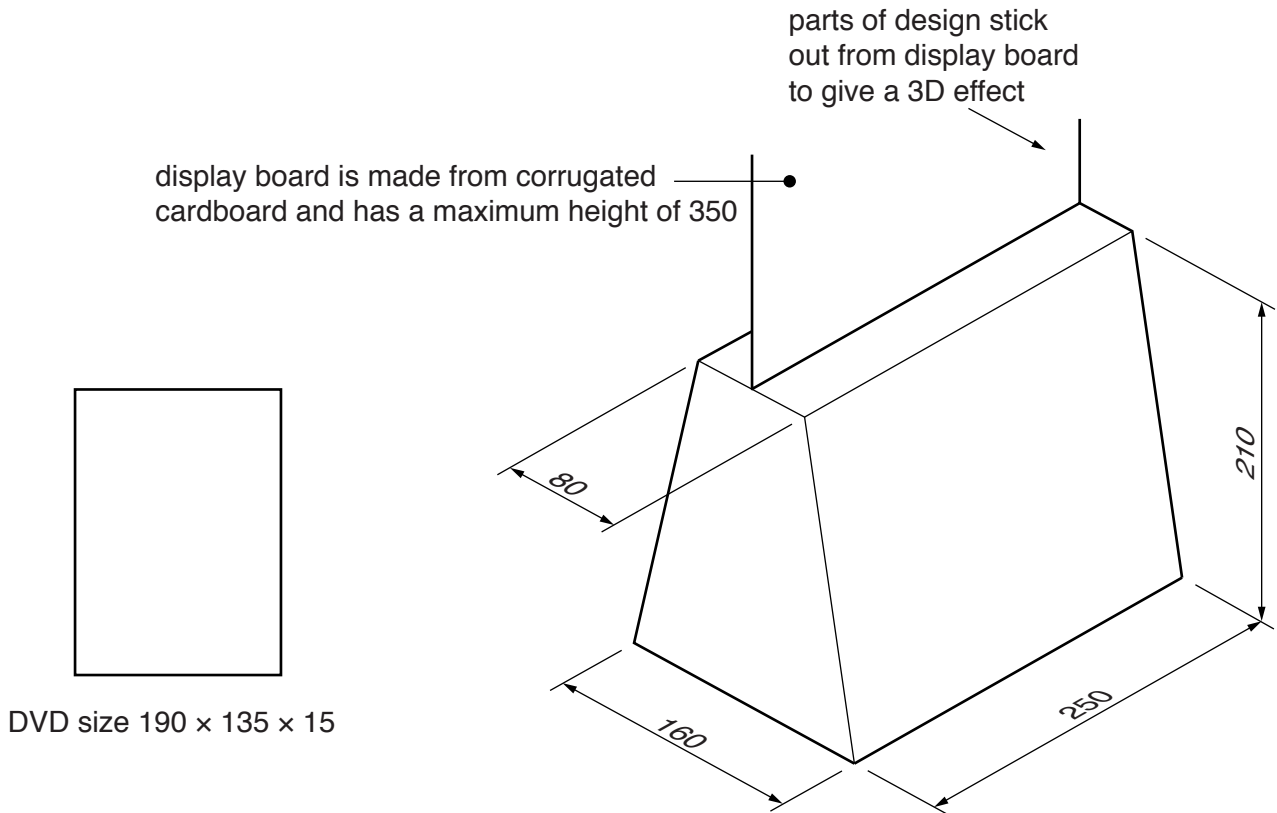

Fig. 8
- 8 Fig. 8 shows an incomplete idea for a counter top display stand which will be used to promote a DVD science fiction film titled '**Rocket to the Moon and beyond**'. Most of the design will be made from corrugated cardboard.